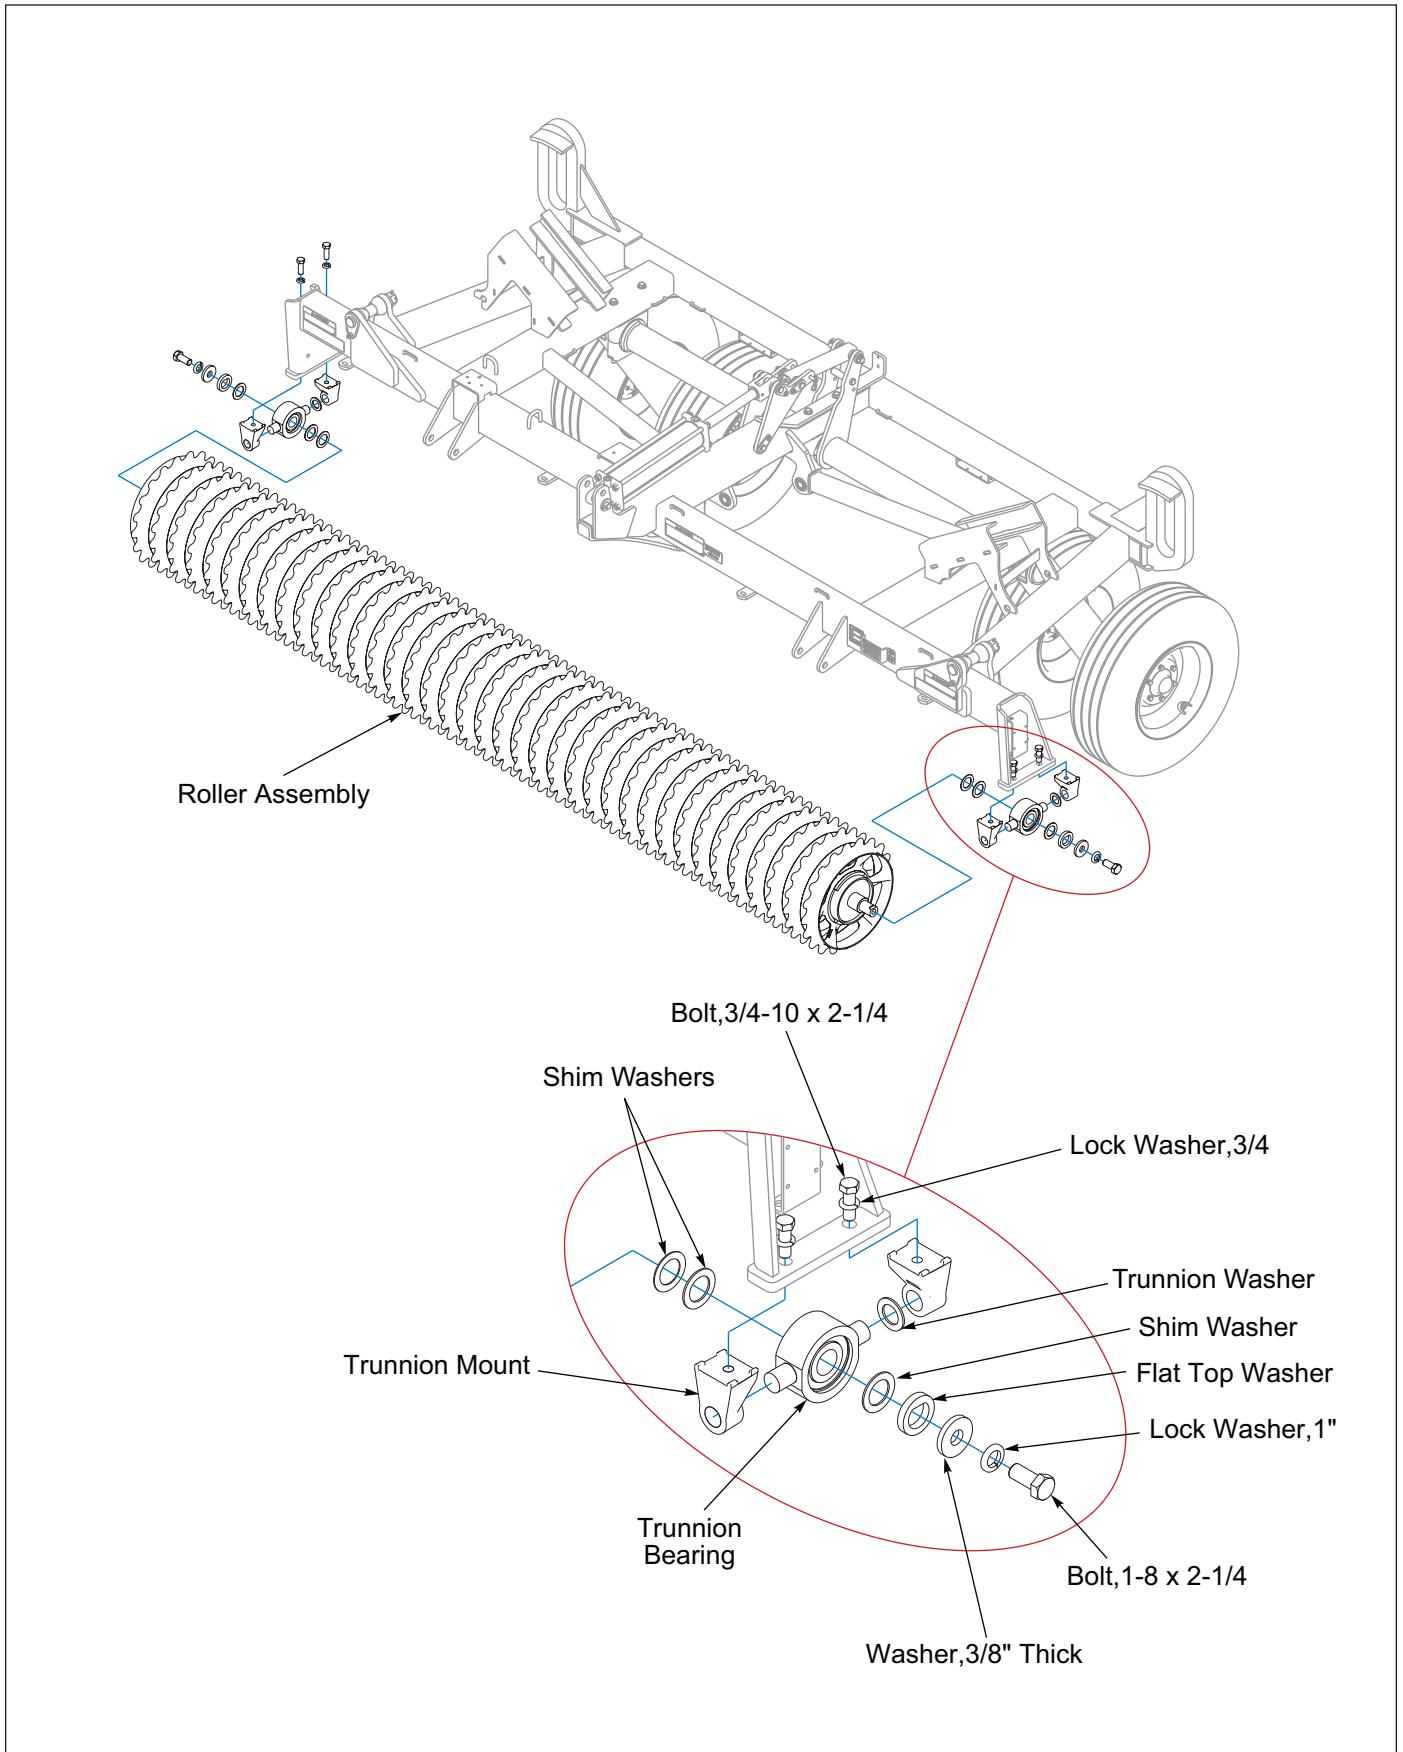

Figure 2-7: Center Frame Roller Installation
2. With the Bearing Grease Fitting facing towards the rear of the machine, slide the Trunnion Bearing Mounts onto the Trunnion Bearings and lift the Roller Assembly up to the Center Frame Bearing Hangers. Hand tighten 3/4-10 hardware to hold Trunnion Bearing Mounts in place. **See Figure 2-7.**